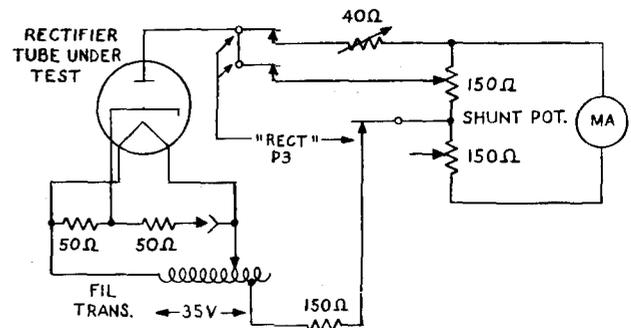

Fig. 3 - Standard Rectifier Test Circuit
2.22 When testing a rectifier-type tube the set is arranged as shown in Fig. 3. Each anode is tested separately. The 83-type tube